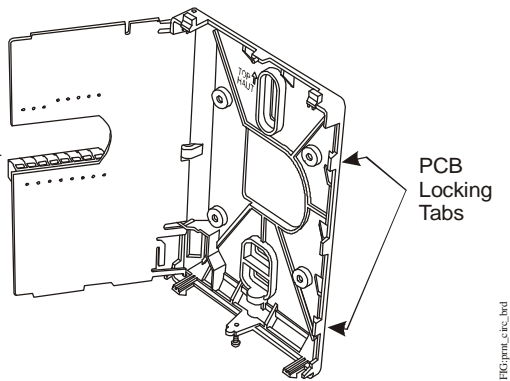

Figure 2: Opening the PCB
- Carefully pull the locking tabs on the right side of the mounting base and unlock the PCB. Open the PCB to the left as illustrated in Figure 2.